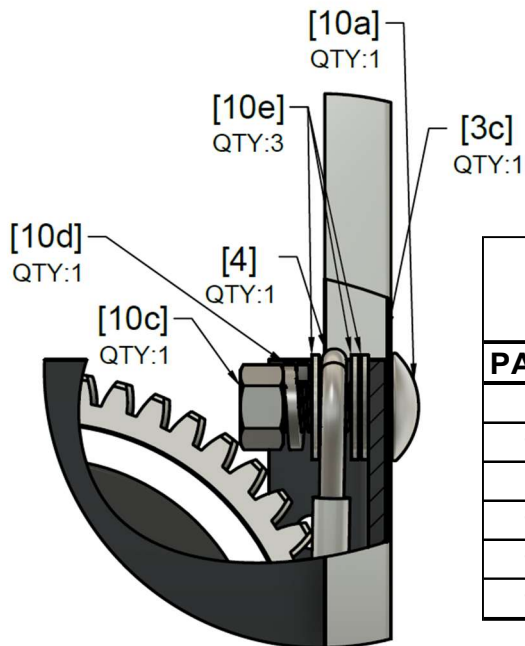

Figure 06
*The loop end of the cable bolts directly to the gear box using the slotted hole farthest from the pier. See Figure 06.